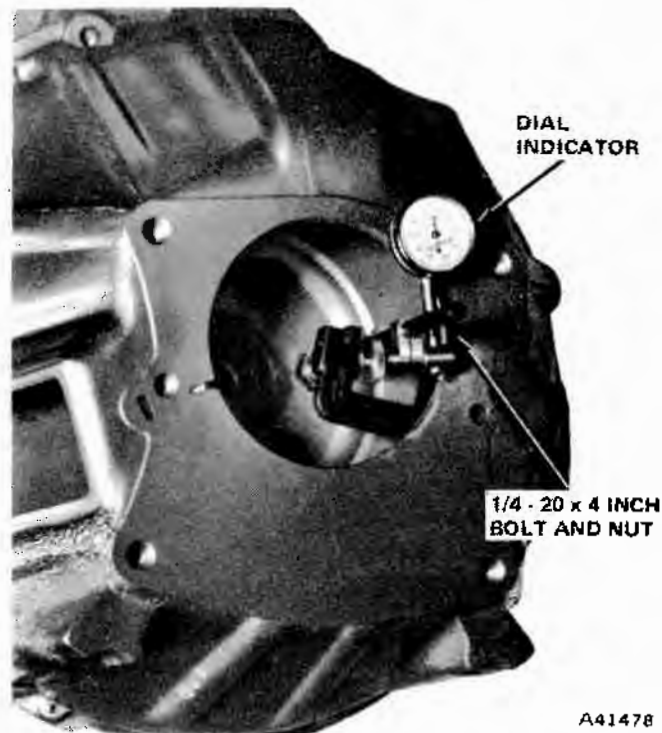
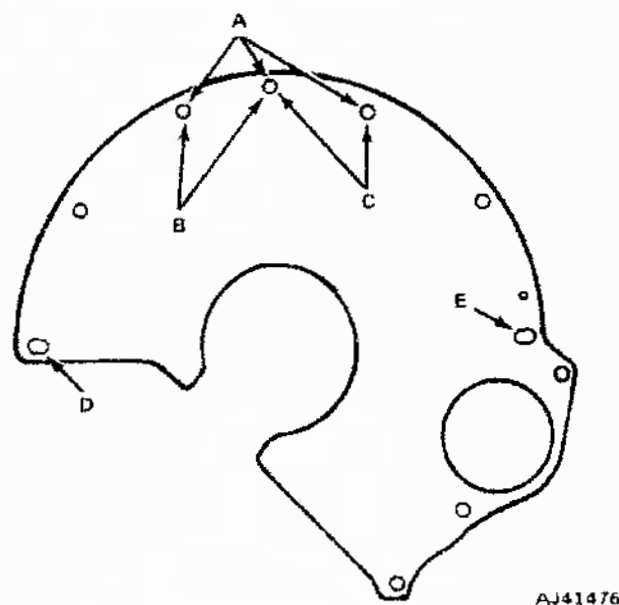

Fig. 5-4 Location of Dial Indicator
Fig. 5-5 Shim Locations - 232 CID Engine Shown
- (1) Remove transmission as outlined in Section 6 - Manual Transmission.
- (2) Remove clutch housing and clutch assembly.
- (3) Remove one flywheel attaching bolt.
- (4) Use a four-inch long 1/2 -20 bolt and a nut for a dial indicator support.
- (5) Install nut on bolt so that 10 or 12 threads are exposed and install bolt in crankshaft.
- (6) Tighten nut so bolt is held securely in place.
- (7) Install clutch housing on engine and tighten attaching bolts to specified torque.
- (8) Install a dial indicator so that it contacts rear face of clutch housing approximately 1/8 inch from edge of rear opening (fig. 5-4).
- (9) Check squareness of face of housing by turning crankshaft.
- (10) Total indicator reading should not exceed 0.010 inch.
(11) The following procedure may be used to correct indicated misalignment of clutch housing.
(12) Install shims between clutch housing and engine to clutch housing spacer.
(13) Refer to figure 5-5. Shims should be installed at points A to correctly align top with bottom of housing. Shims installed at points B and D or C and E will correct misalignment at either side of clutch housing. Shims installed at points D and E will correctly align bottom to top.
(14) To install shims, loosen clutch housing assembly.
(15) Locate shims where necessary by loosening bolts and inserting shims in place.
(16) Tighten bolts and recheck face alignment.
(a) If runout at adapter bore is OK but out of tolerance at face, shim clutch housing as required to obtain runout of 0.010 inch or less. Shim housing as described under Clutch Housing Alignment (fig. 5-5).